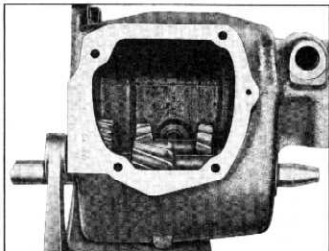

Fig. 17—Assembly of Countershaft
3. Lubricate the countershaft and install it in from the front, pushing the assembly tool ahead of it (fig. 17).